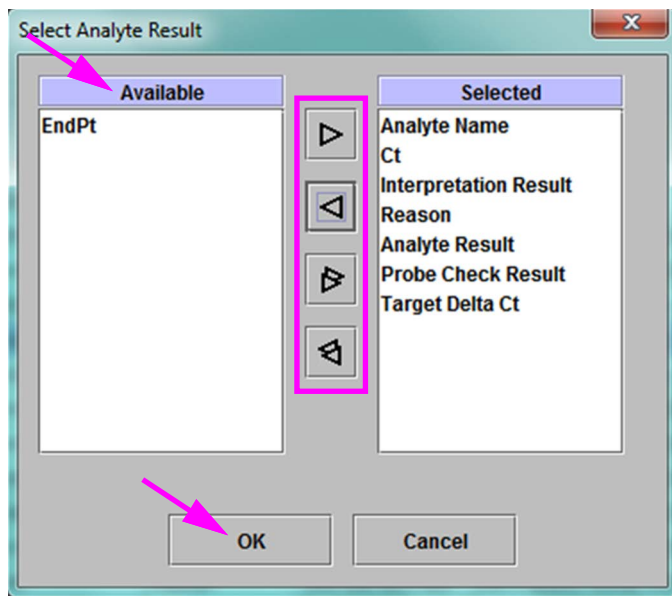

Figure 5-53. Select Analyte Result Dialog Box
- The **Analyte Result** button allows the user to select specific information to include in the Analyte Result section of the report (see Figure 5-53).